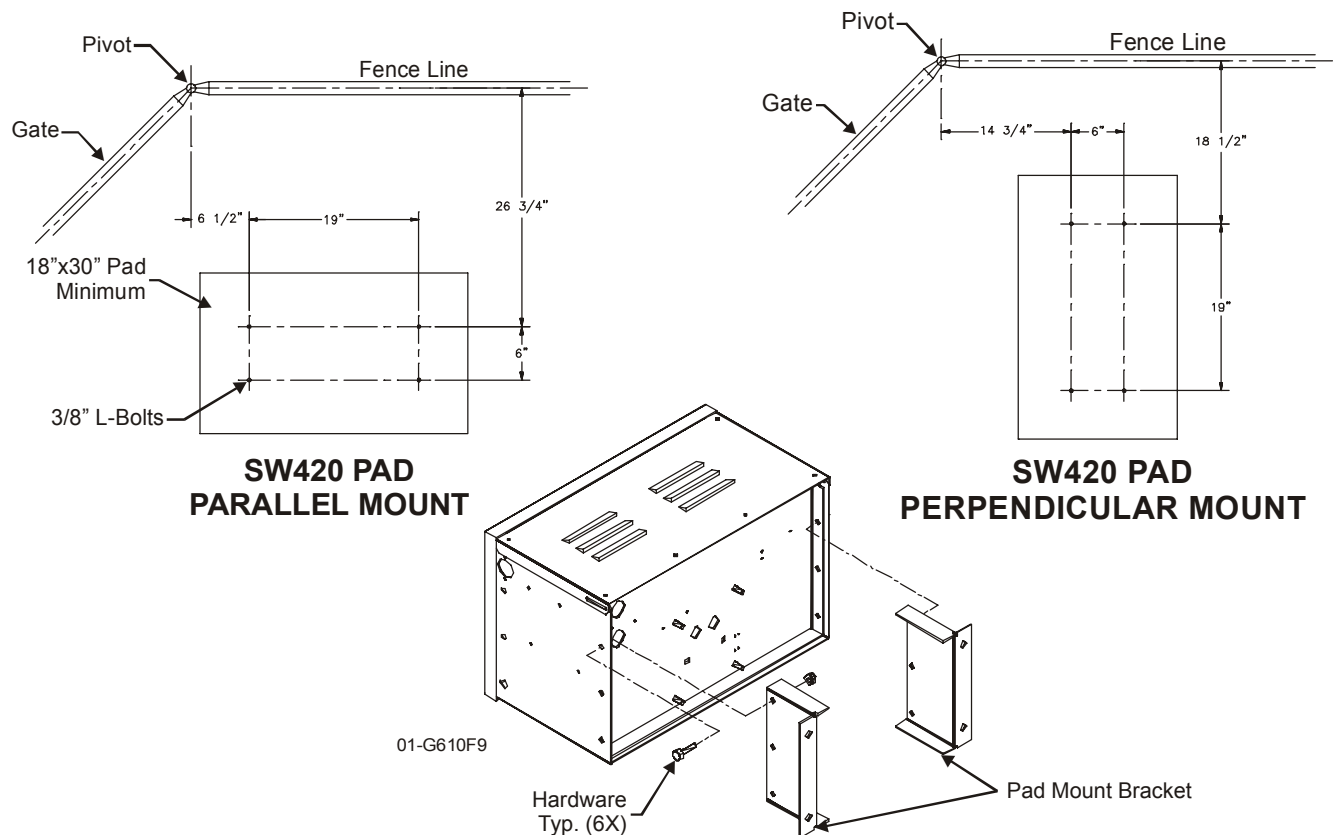

Figure 7
- 1 Layout the concrete pad as detailed in Figure 7. Locate the electrical conduit.
- 3 Locate (4) 3/8" x 6" minimum length L-Bolts (not supplied) as shown in Figure 7.
- 5 Allow concrete to set at least (2) days before installing power unit.
- 6 Bolt the (2) pad mount brackets to the bottom of the SW420 with the hardware provided.
Refer to Figure 7.